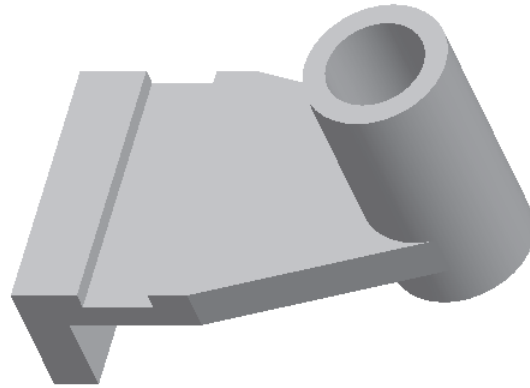

Figure 4-104 Final model of Tutorial 3
5. Choose the **Build feature** button to confirm the feature creation. The default trimetric view of the complete model is shown in Figure 4-104.